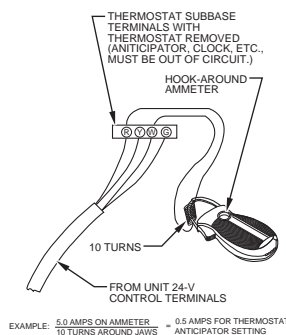

Fig. 52 – Amp. Draw Check with Ammeter
- (3.) Connect an amp. meter across the R and W subbase terminals or R and W wires at wall. (See Fig. 52.)